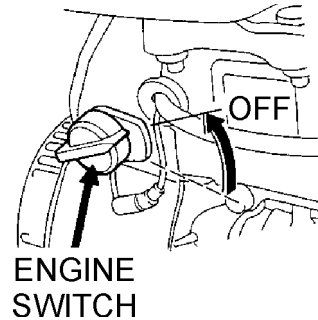

Figure 16. Engine ON/OFF Switch (OFF Position)
2. After the engine **cools**, turn the engine start/stop switch to the "**OFF**" position (Figure 16).